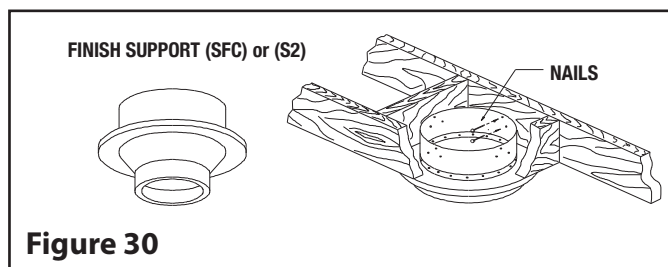

Figure 30
Step 3: From below push the Finish Support (SFC) into the framed hole. Nail the support to the framed box using (12) - 3" spiral nails (see Figure 30).